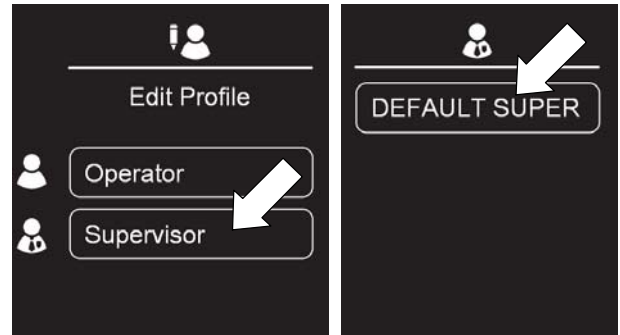

FIG. 200
4. Press the Supervisor button then press the DEFAULT SUPER button (Figure 200 ).